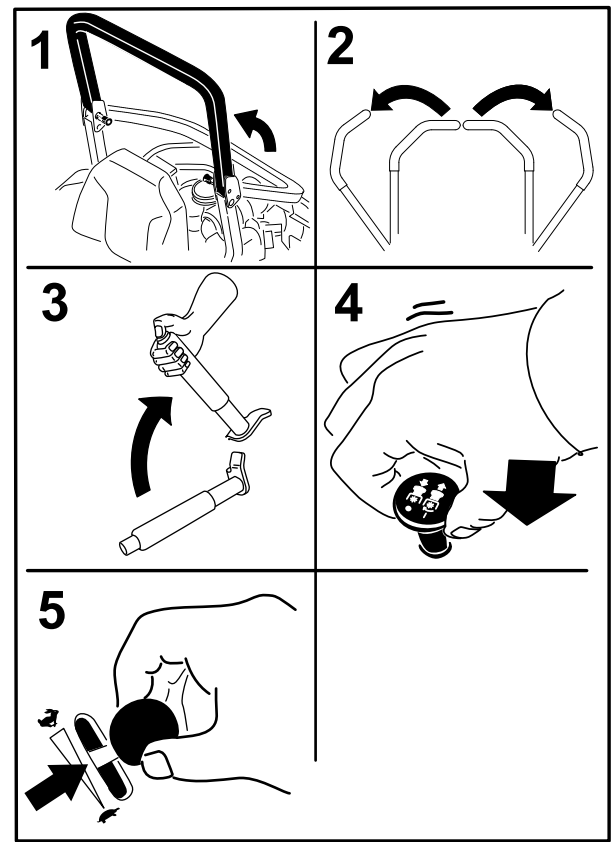

Figure 19
4. Move the blade control switch (PTO) to the Off position (Figure 19).